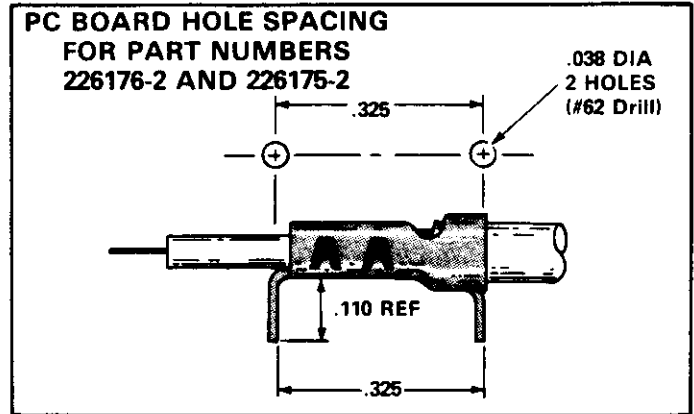

Fig. 4
4. Drill holes in pc board for tabs and center conductor as required. See Figure 4.